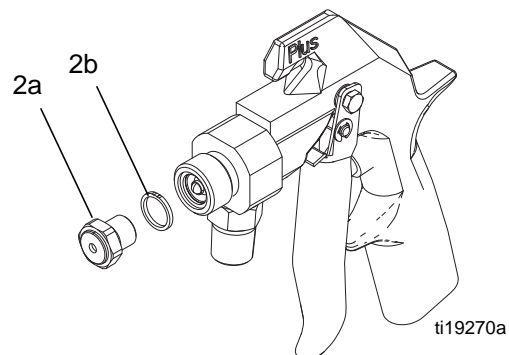

FIG. 6
4. Unscrew the valve seat (2a). Remove the gasket (2b). See FIG. 6.